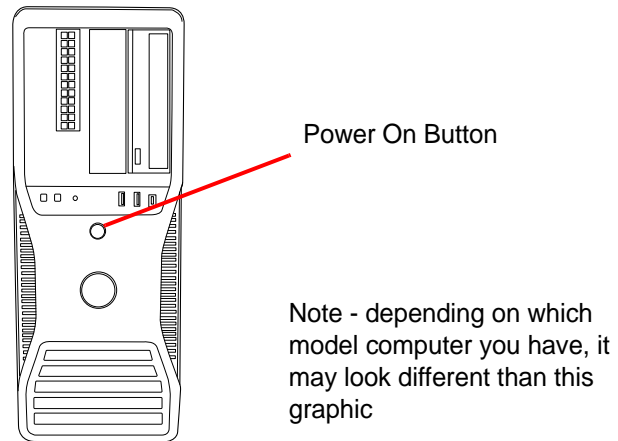

Figure 3-5 Image Processor Controller, Power Switch
- At the Image Processor Controller, push the power on button. (Figure 3-5.)